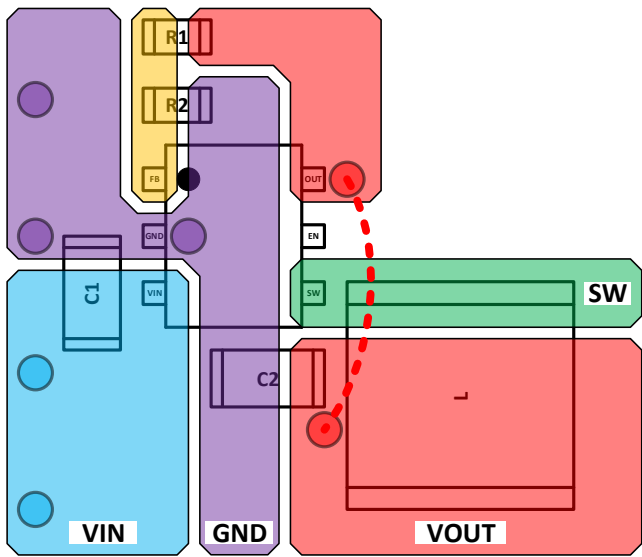

Figure 42. Recommended AP61100 PCB Layout
9. See Figure 42 and Figure 43 for more details.